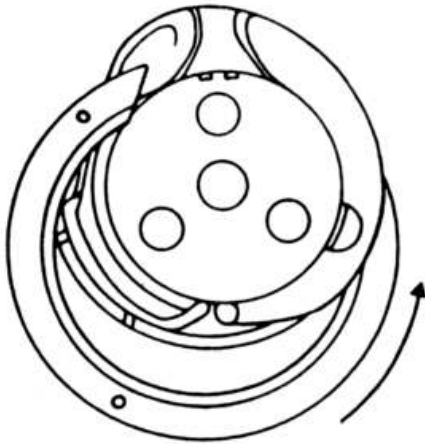

Fig. 24d
- Turn the sewing hook gib to the left into the bobbin case base (fig. 24d).